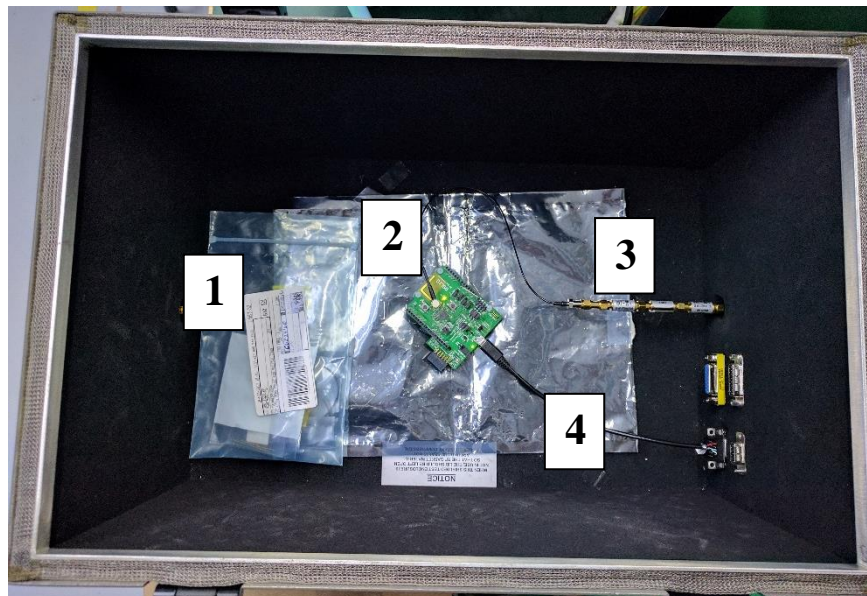
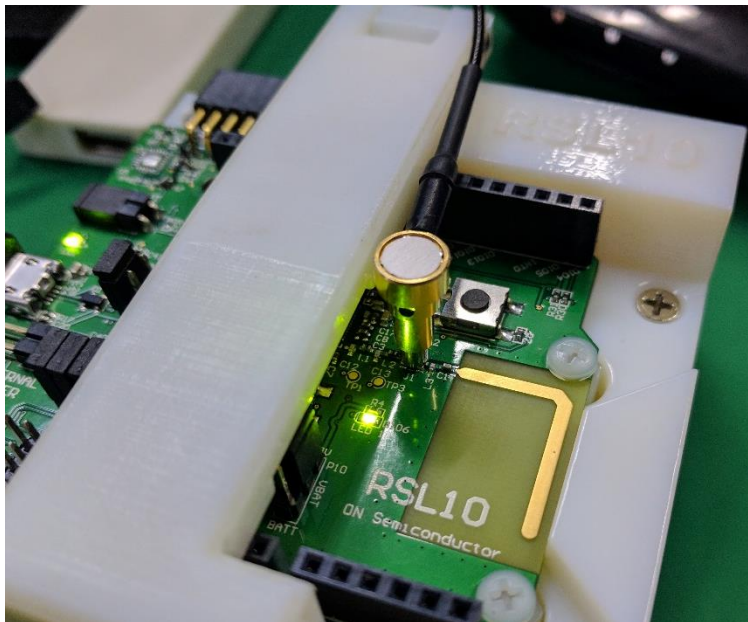

Figure 3: Contents of the RF box.
Figure 12: Connecting the RF SMA adaptor cable.
Inside the RF enclosure (see Figure 3) you can find:
- b. An SMA adaptor cable (coming from the RF Lower Tester Box) is then connected to the DUT. See Figure 12 Make sure you hear/feel a click sounds with connecting the cable. This will tell you that a good connection has been made. Note that after a few hundred cycles, this cable may get old and worn-out. When this happens, use one of the extra cables provided (see Figure 3).